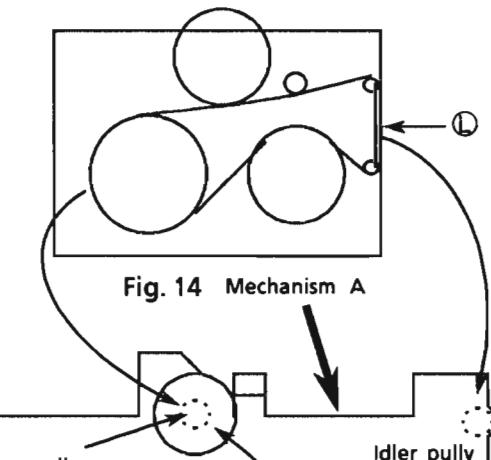
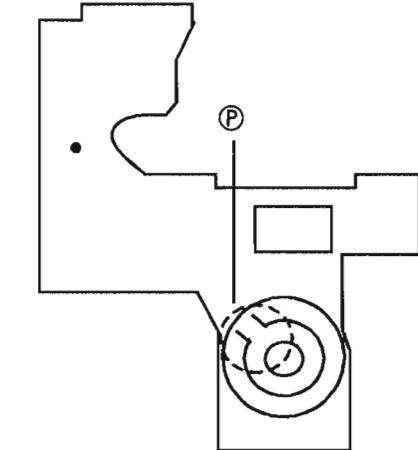

Fig. 14 Mechanism A
Fig. 16
1. Install the belt of mechanism A as shown in fig. 14.
4. Hang the part ⑪ to the idler pulley.
5. Install the mechanism B installed the belt as shown in fig. 16 to the bracket which is assembled with the mechanism A.
6. Hang the part ⑫ to the motor pulley using a tweezers and the like.